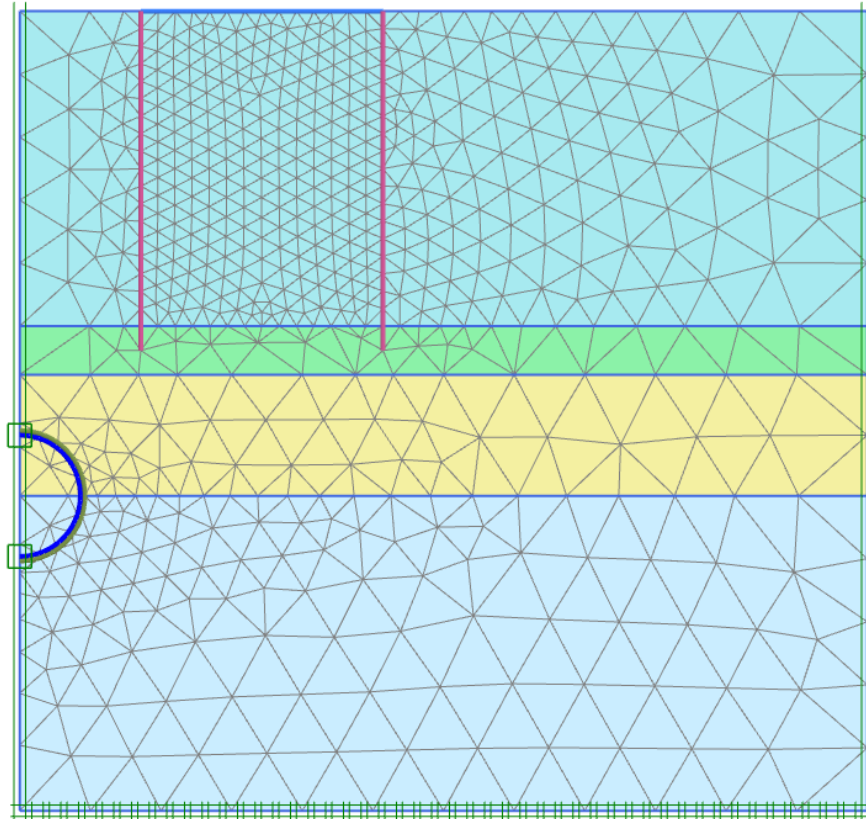

Figure 61: The generated mesh
3. Click the **View mesh** button  to view the mesh as shown in Figure 61 (on page 82) .